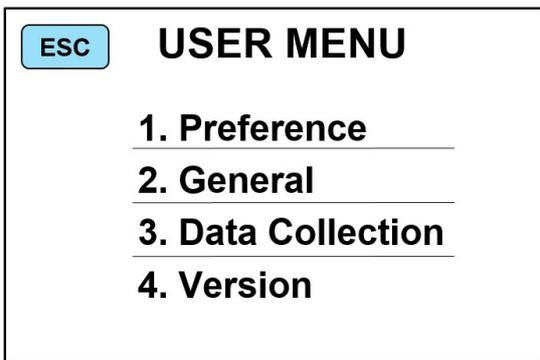

Figure 26
- 2) Press “” key to enter into USER MENU as figure 26, then press “2.General” to enter into GENERAL SETTING interface as figure 47: